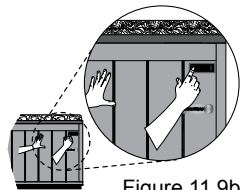

Figure 11.9b
- Select one of the two door latches and press the latch release button to unlocked, Figure 11.9b. This will release the panel from its bracket and the hot tub frame. Repeat the same steps for the other latch.